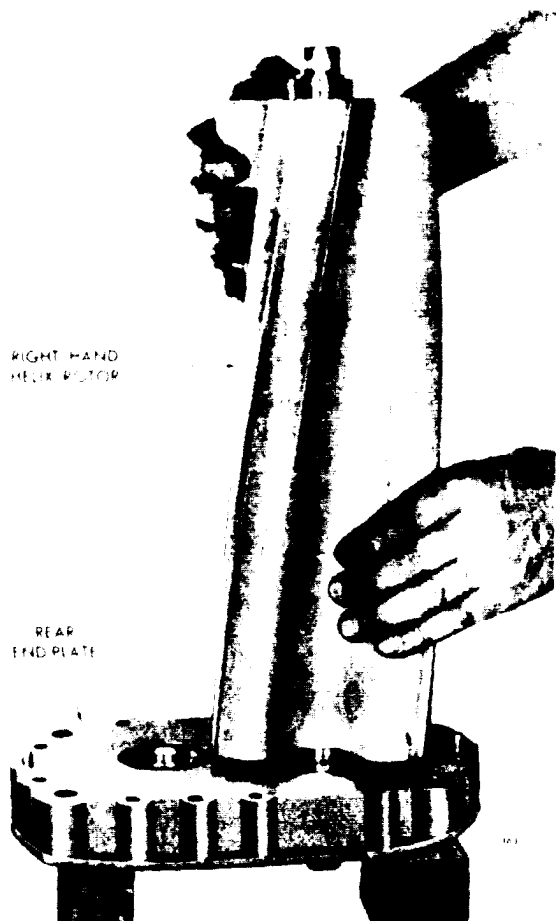

Figure 11D-15. Installing Blower Rotor in Rear End Plate
- E. With omitted serration in the splines of the shaft facing toward the top side of the end plate, start the end of the rotor shaft into the right hand shaft opening in the end plate so that the gap portion of the seal ring is started into the ring collar (see Figure 11D-15 on page 11D-11). Continue to lower the rotor and very